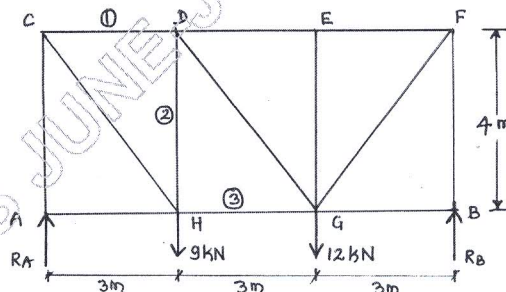

Fig.Q.2(c)
c. A truss of span 9m is loaded as shown in Fig.Q.2(c). Find the forces in the members marked 1, 2 and 3. (08 Marks)